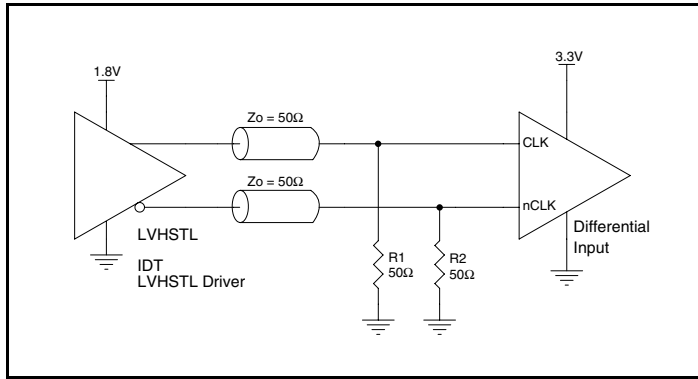

**Figure 2. Recommended Schematic for Wiring a Differential Input to Accept Single-ended Levels**
*Figure 2* shows how a differential input can be wired to accept single ended levels. The reference voltage  $V_{REF} = V_{DD}/2$  is generated by the bias resistors  $R1$  and  $R2$ . The bypass capacitor ( $C1$ ) is used to help filter noise on the DC bias. This bias circuit should be located as close to the input pin as possible. The ratio of  $R1$  and  $R2$  might need to be adjusted to position the  $V_{REF}$  in the center of the input voltage swing. For example, if the input clock swing is  $2.5\text{V}$  and  $V_{DD} = 3.3\text{V}$ ,  $R1$  and  $R2$  value should be adjusted to set  $V_{REF}$  at  $1.25\text{V}$ . The values below are for when both the single ended swing and  $V_{DD}$  are at the same voltage. This configuration requires that the sum of the output impedance of the driver ( $R_o$ ) and the series resistance ( $R_s$ ) equals the transmission line impedance. In addition, matched termination at the input will attenuate the signal in half. This can be done in one of two ways. First,  $R3$  and  $R4$  in parallel should equal the transmission